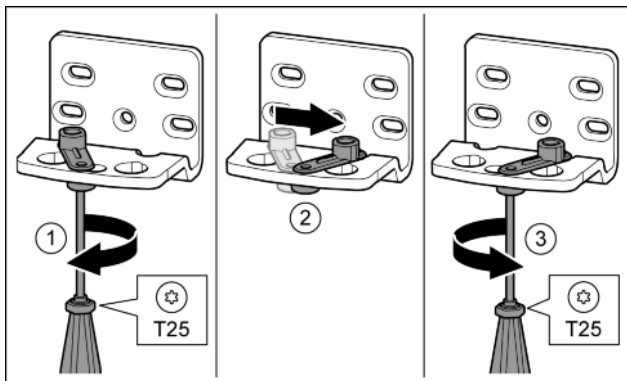

Fig. 15
- ▶ Loosen screw using a T25 screwdriver. *Fig. 15 (1)*
- ▶ Lift the door closure aid and turn it 90° to the right in the hole. *Fig. 15 (2)*
- ▶ Tighten screw using a T25 screwdriver. *Fig. 15 (3)*